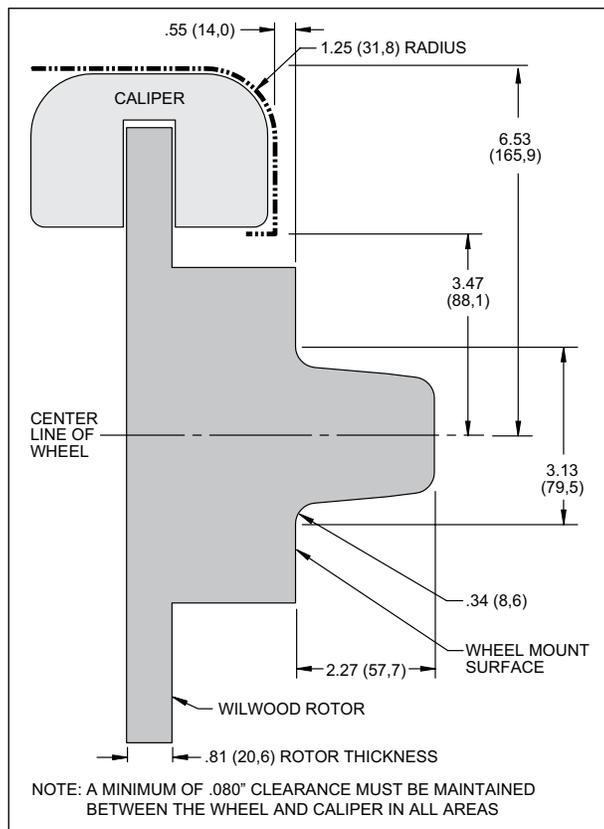

Figure 3. Wheel Clearance Diagram
- Review the Wheel Clearance Diagram (Figure 3, page 5) to verify that there is adequate clearance with the wheels you will be using with the installation.
- Verify wheel clearance utilizing Figure 3.
- **WARNING:** *The wheel contact surfaces must seat completely on the face of the hub.* If any contact surfaces overhang the outside diameter of the hub face, a 6.60" diameter x .20" thick steel spacer (item 21, Wilwood P/N 300-11961) MUST be used between the wheel and the hub.